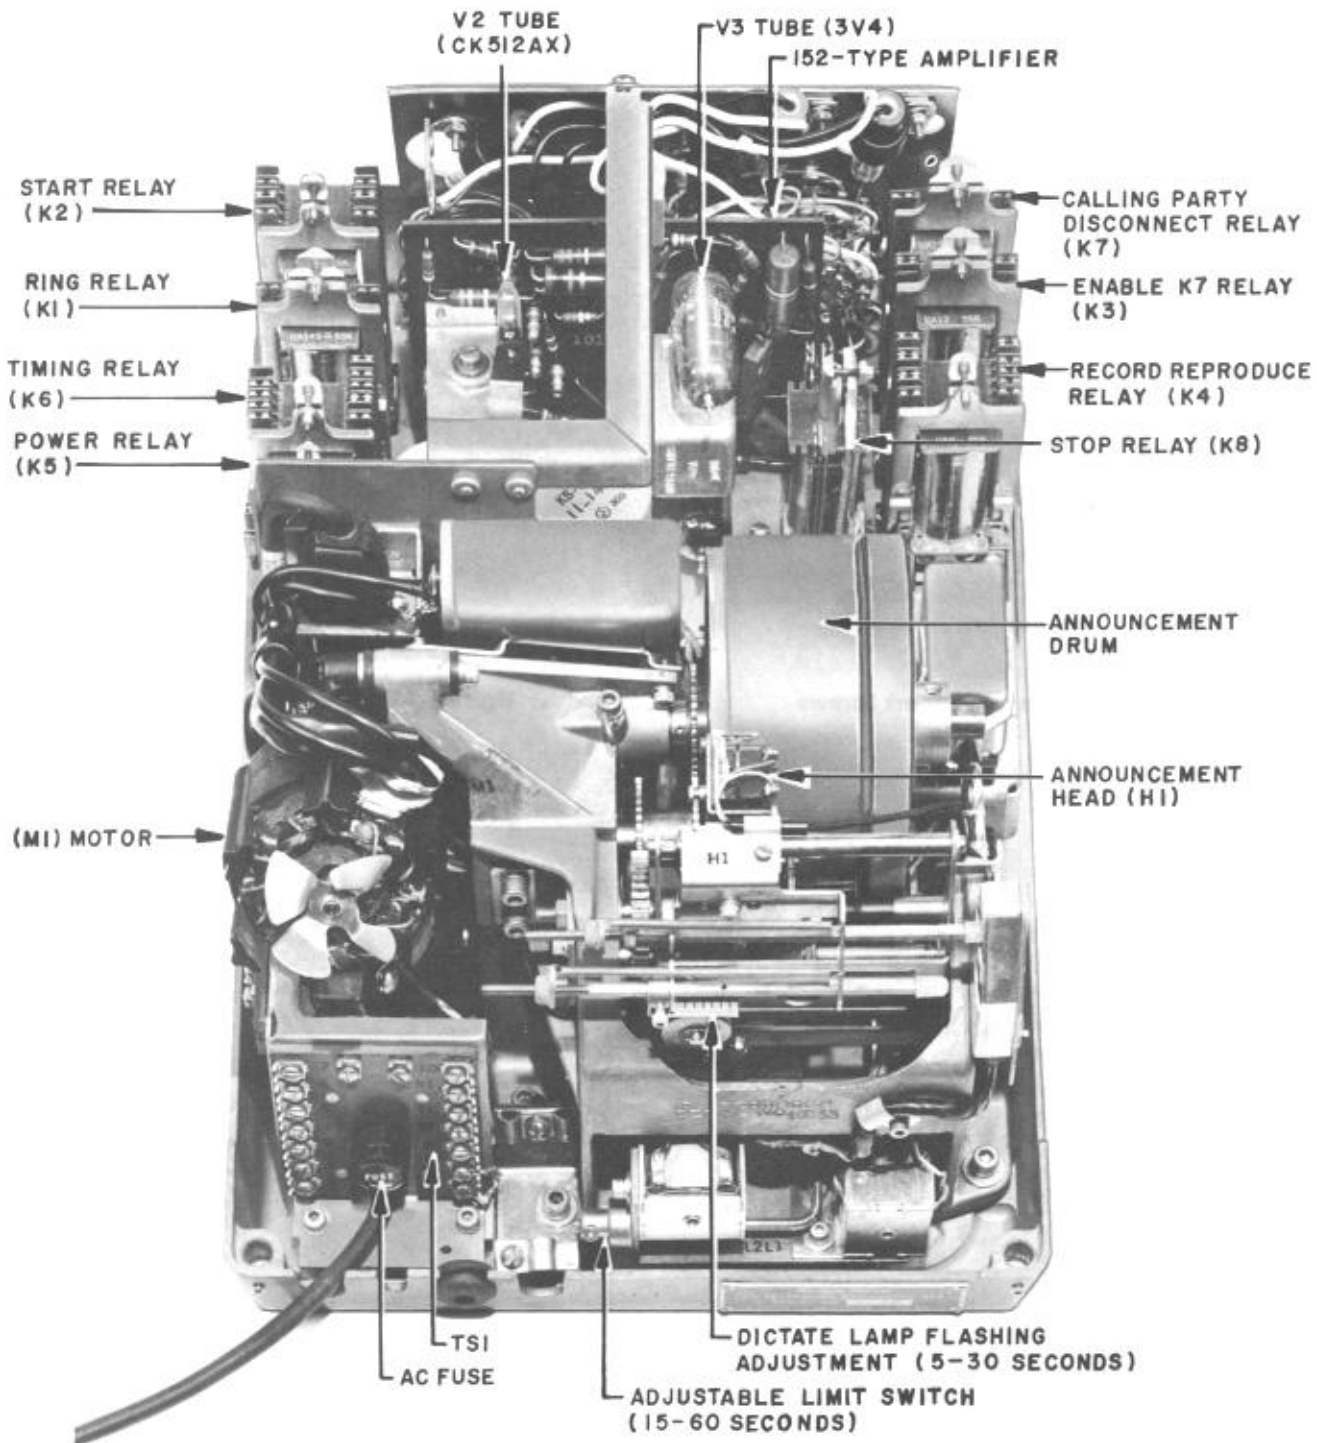

Fig. 11 — Assembled Parts of Telephone Answering Set
1.15 Fig. 11 identifies the assembled parts of the telephone answering set.